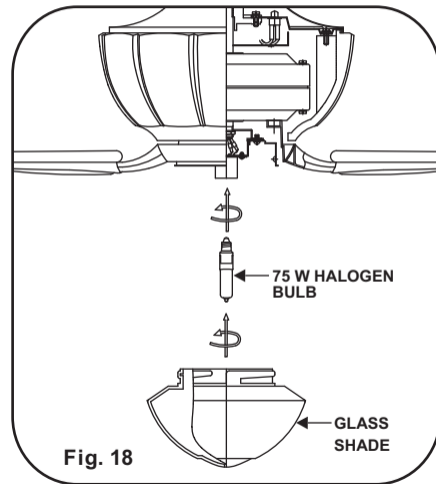

Fig. 18
Step 2. Raise glass shade up against bottom of fan housing and secure it to the fan by turning the glass shade clockwise until snug. **DO NOT OVERTIGHTEN.** (Fig. 18)